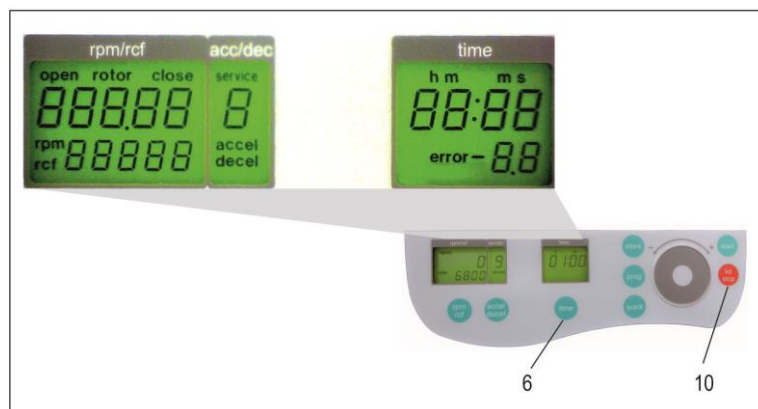

Figure 6
Open the centrifuge lid and shut off the main switch. Now switch on again the main switch. For approximately 3 seconds “SIEVA“ will be shown in the display. Press during this time the keys “time“ (6) and “lid“ (10) simultaneously. As a result, a display test is administered for approx. 3 seconds. All possible indications will appear at the same time (see Figure 6). The LED light is flashing alternately with green and red color.